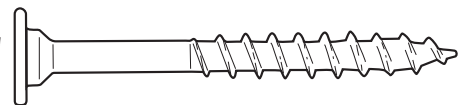

Fig. 4
5. Attach upper 2" x 4" as shown in **(Fig. 4)**. Edges are to be flush with 4" x 4"s.
6. Attach lower 5/4" boards as shown in **(Fig. 4)**. Edges are to be flush with 4" x 4"s.